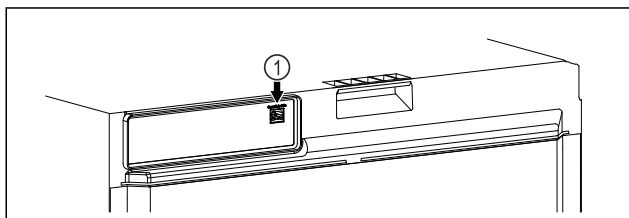

Fig. 113
- ❑ SmartModule Fig. 113 (1) is inserted.